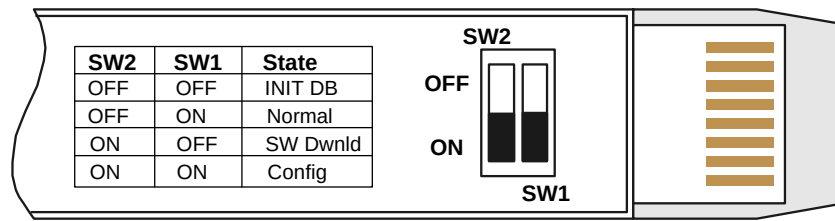

Figure 1. DIP Switches on MiRiCi-E3T3's Underside
1. Set the DIP switches on MiRiCi-E3T3's underside to enable normal working mode (see Figure 1).